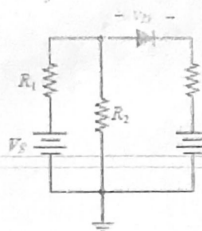

Figure Q5(c)
- (c) The circuit in Fig Q5(c) has the following parameters: $V_S = 12\text{ V}$; $V_B = 11\text{ V}$; $R_1 = 5\ \Omega$; $R_2 = 10\ \Omega$; $R_3 = 10\ \Omega$. Determine if the ideal diode is conducting. (7 marks)